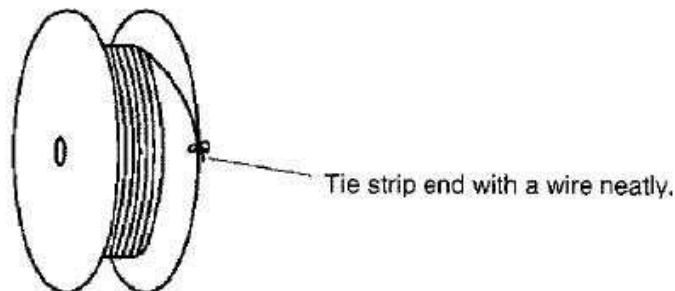

Fig. 5
(3) Avoid storing the contact reel in a moist or dusty place. Stock the reel in a comparatively dry and clean place (5~34 °C, 45~85%RH) away from direct sunlight.
(4) When removing the contact reel from the machine, fasten the end of the contact strip onto the edge of the reel with use of proper string or wire. Fig.5